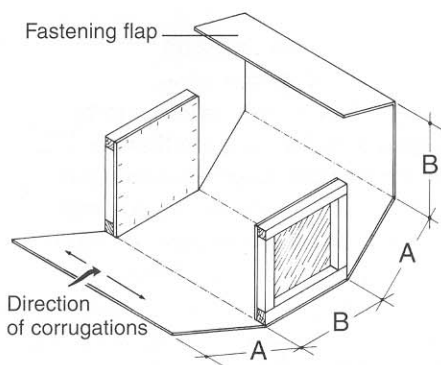

Figure 2.
5. To determine the width of triwall material required for the container, add the thickness of the two end cap panels, including the cedar frames, to the desired internal width to arrive at the outside width (C).
6. To determine the length of triwall material necessary to cover the entire container (Figure 2), use the following calculation:
Important: Before cutting the triwall material, ensure that the corrugations will run across the width of the container (Figure 2). This orientation enables the material to be properly folded to form the corners.